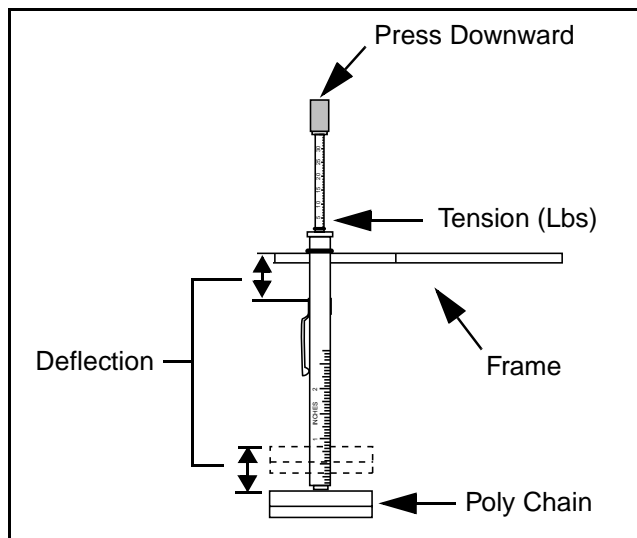

Figure 6 - 26 Testing Poly Chain Belts
- 3) Set the large O-ring 1/4" (6.4 mm) above the mark. (Figure 6 - 22)